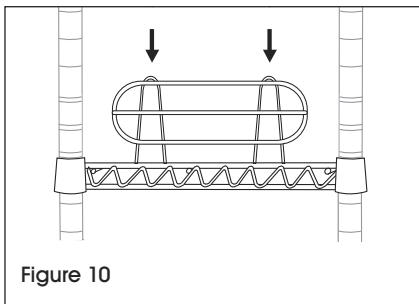

Figure 10
2. Starting with the bottom shelf, attach a short shelf ledge to one of the short sides of the shelf. Start by getting one set of prongs inserted, then push the other end of the shelf ledge down until secured. Repeat for next 4 shelves, leaving top shelf empty. (See Figure 10)